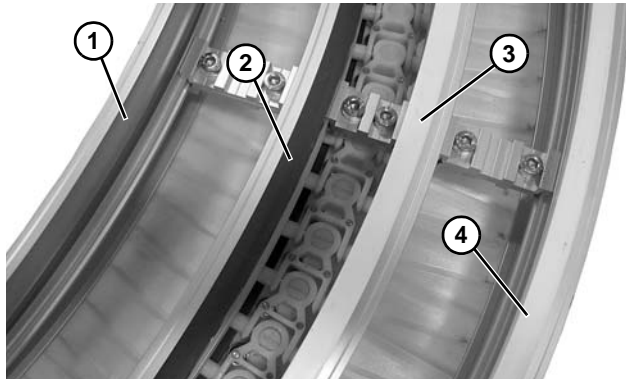

Figure 35
On the 180 and 260 width conveyors, the high performance wear strip is located at position 2 (**Figure 35, item 2**). The standard wear strips are located at positions 1, 3, and 4 (**Figure 35, item 1, 3, and 4**).
On the 085 width conveyors, the high performance wear strip is located at position 1 (**Figure 35, item 1**). The standard wear strip is located at position 2 (**Figure 35, item 2**). There is no position 3 or 4 on the 085 width conveyors.